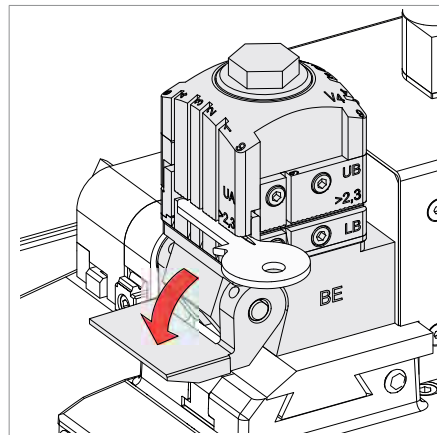

Fig. 127
- 4) Lower the gauge by hand (Fig. 127).